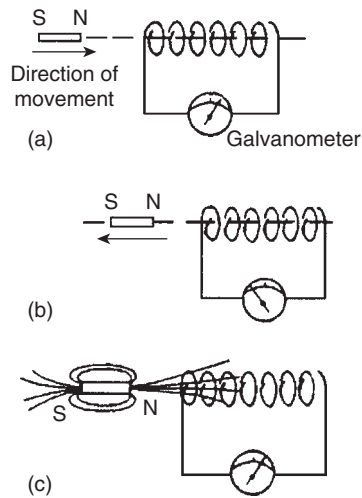

Figure 9.1
Figure 9.1(a) shows a coil of wire connected to a centre-zero galvanometer, which is a sensitive ammeter with the zero-current position in the centre of the scale.
- (a) When the magnet is moved at constant speed towards the coil (Fig. 9.1(a)), a deflection is noted
- When the magnet is moved at the same speed as in (a) but away from the coil the same deflection is noted but is in the opposite direction (see Fig. 9.1(b)).
Figure 9.1(c) shows the magnetic field associated with the magnet. As the magnet is moved towards the coil, the magnetic flux of the magnet moves across, or cuts, the coil. **It is the relative movement of the magnetic flux and the coil that causes an e.m.f. and thus current, to be induced in the coil.** This effect is known as electromagnetic induction. The laws of electromagnetic induction stated in Section 9.2 evolved from experiments such as those described above.